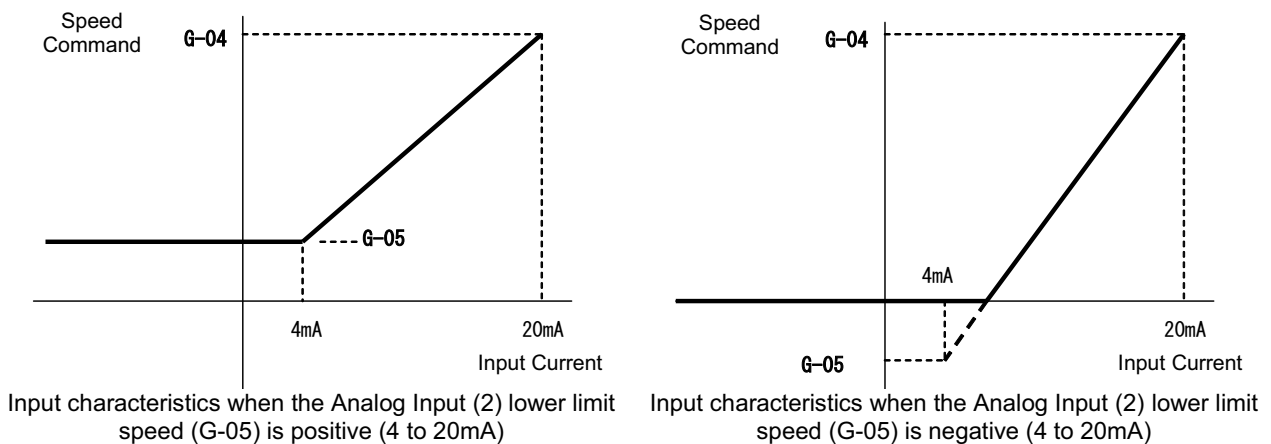

Figure 5.4 Speed command characteristics with current input of 4 to 20mA
The speed command value is set as the Analog Input (2) lower limit speed (G-05) when the input is 4mA. When the input is 20mA, it is set as the Analog Input (2) upper limit speed (G-04). However, this will be set to "0" if the Analog Input (2) lower limit speed (G-05) has a negative value. (Figure 5.4) If the minimum speed (A-01) is other than "0", the speed command absolute value is controlled to prevent falling below the minimum speed. As a speed command, this only allows forward operation. For reverse operation, a reverse operation command should be used.